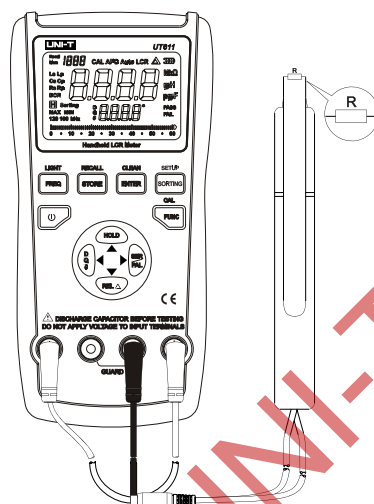

Figure 8
- 3) Connect resistance to the testing terminal or connect the corresponding accessory to the measured capacitance (As shown in Figure 8).